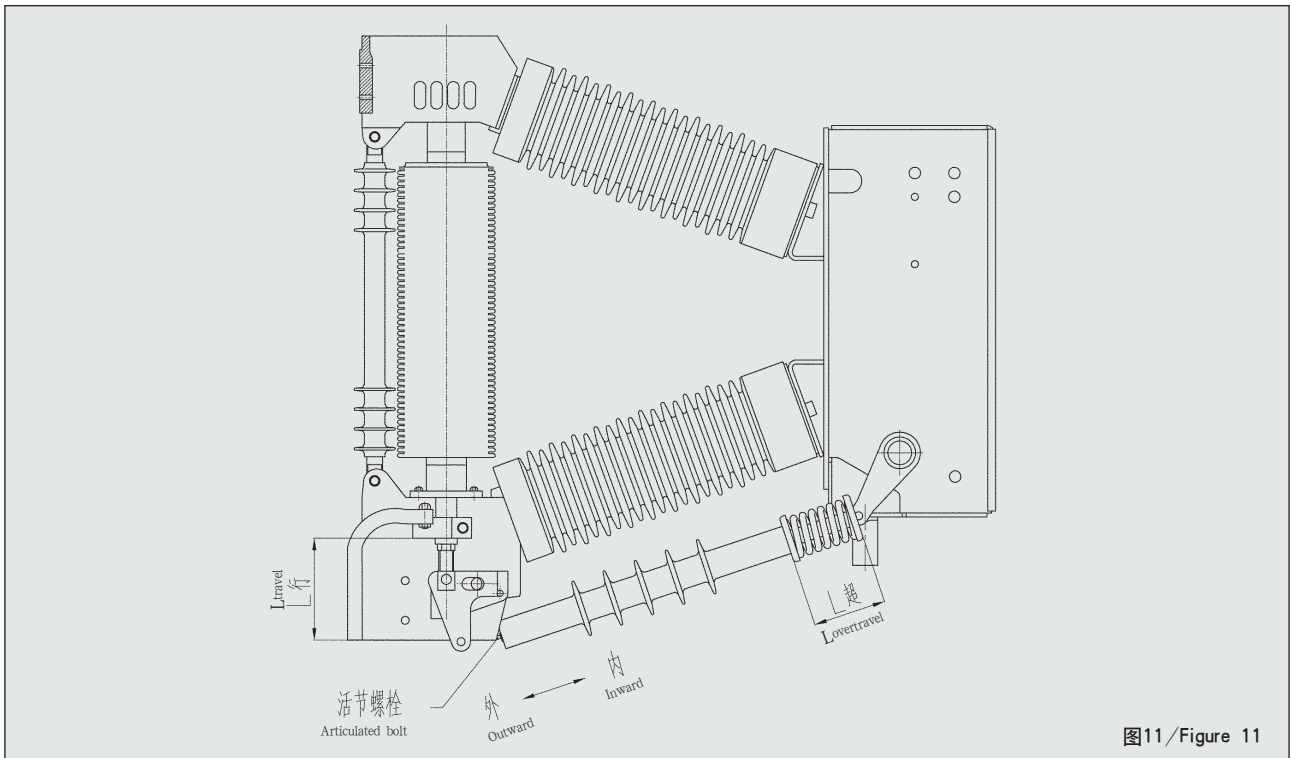

图11/ Figure 11
(14) Turn around vacuum interrupter until No.1 shaft pin, washer, and baffle are installed, and indication burning and damage shall face out.
(15) No.5 bolt and No.1 nut shall be fasten up after right installation of current link and conductive clamp.
(16) Fasten up bolts and nuts of all parts.
(17) Install No.2 pin shaft and baffle by screw driver.
(18) Check correct installation of all the parts and then close and open several times manually.
(19) Measure stroke and over-travel of circuit breaker by depth gauge and slide gauge, respectively, as is shown in figure 11.
(12) 装上管接头和上出线，并将螺栓1、2旋入一定的深度。
(13) 装上绝缘支杆，螺栓3不紧死。
(14) 转动灭弧室至装上轴销1及垫圈和挡卡，注意导电杆上烧损标记要朝外。
(15) 装上螺栓5和螺钉1，把软联结和导电夹装正后将它们紧死。
(16) 把各部分的螺栓都紧死。
(17) 借住螺丝刀装上轴销2及挡卡。
(18) 检查各部分安装正确后，手动储能并合分闸操作几次。
(19) 分别用深度尺和游标卡尺测量断路器的行程和超行程，如图11。